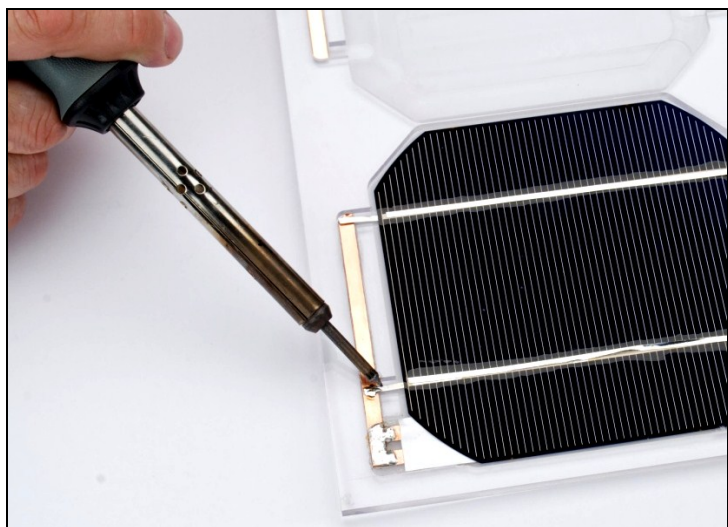

Figure 28
- ✓ Finish the first row of cells by soldering the tabbing wires from the cell in cavity #1 to the bus-bar in groove "C" as shown in Figure 28.